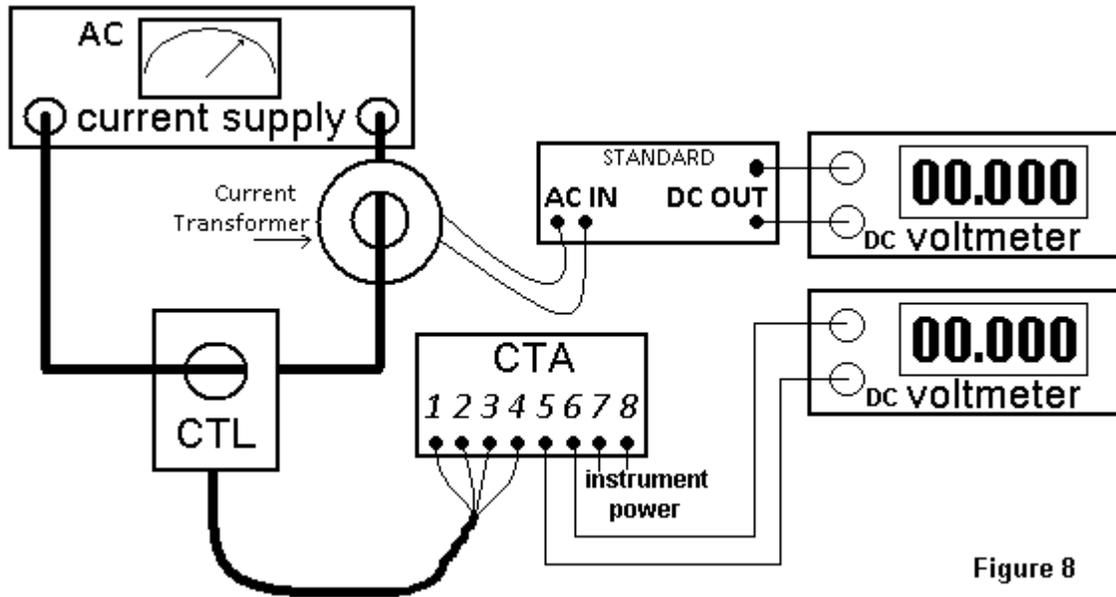

Figure 8
- AC current supply capable of supplying full window current for the model-sets with an **RMS-Measuring CTA:** (CTA213\*, CTA214\*, CTA215\*). Supply output Frequency Supply output Frequency (50Hz, 60Hz, 400Hz, etc.) can be used to meet the requirement of the CTL/CTA application. Figure 8.
- AC "Standard" - Includes Current Transformer. For AC calibration. Figure 8.
**AC Calibration:** (RMS measuring CTA213\*, CTA214\*, CTA215\*) (Figure 8)